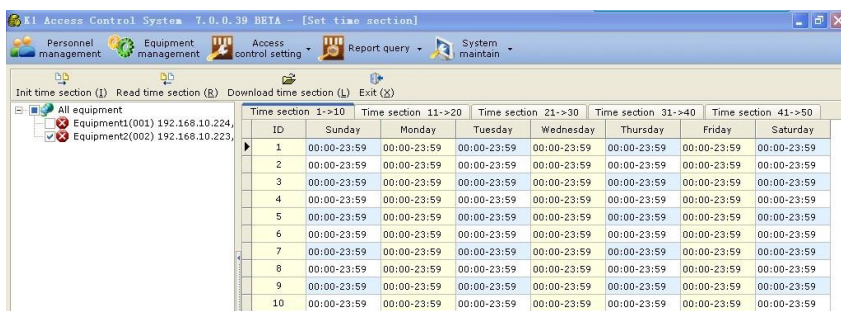

Figure 2.42
1. Setting access control > Setting time section: select one equipment, obtain the time section (The time section of the equipment will be displayed on the time section list. You can obtain the time section for only one piece of equipment each time.)(Figure 2.42).